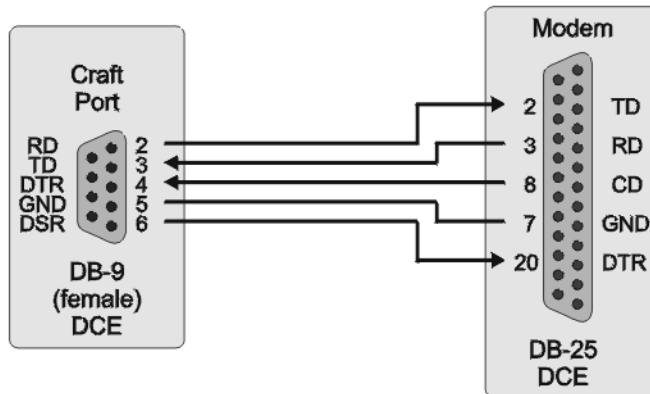

Figure 4. Craft Port to Modem Connections
When connecting the port to a modem, use a null modem cable. The wiring for this cable is shown in Figure 4. Ensure that the modem's Carrier Detect (CD) and DTR functions are enabled. This allows the modem connection to terminate correctly when the Alarm or PGTC Interface unit drops Data Set Ready (DSR), and the unit logs off when the modem drops Carrier Detect.